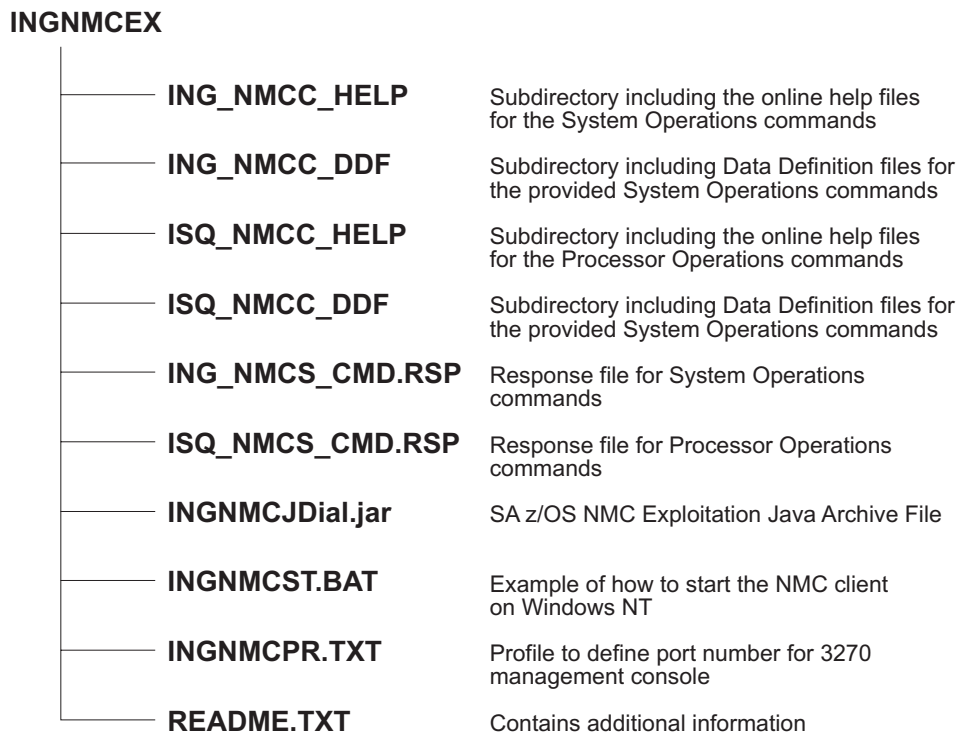

Figure 14. Directory Structure of Unpacked Files
2. Unpack the file into a temporary directory of the NMC Server, using an appropriate tool for the NMC Server operating system. You will obtain the directory structure for the unpacked files as shown in Figure 14.